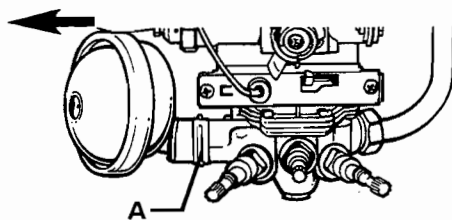

Fig. 19
- a) Remove the retaining spring clip (A) with pliers (see fig. 19)